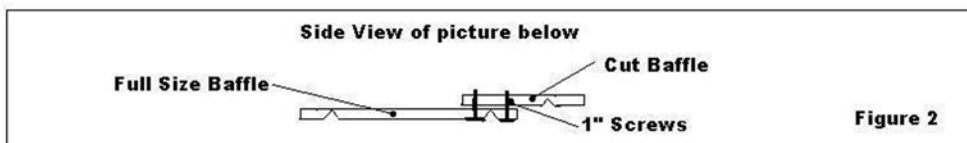

Fig. 2- a cross section of Fig. 1 showing the overlay of the cut piece above the full SmartBaffle and screws for attachment.
- 5- To create a larger SmartBaffle (Fig. 2) simply screw two flat SmartBaffles together with maximum length 1" screws (eight screws with screw points toward the roof deck when installed) ensuring the width is 4" wider than the rafter space (this allows for the 2" flanges). Then install per the above directions. Below is a sketch of the SmartBaffle installation inside a rafter space.